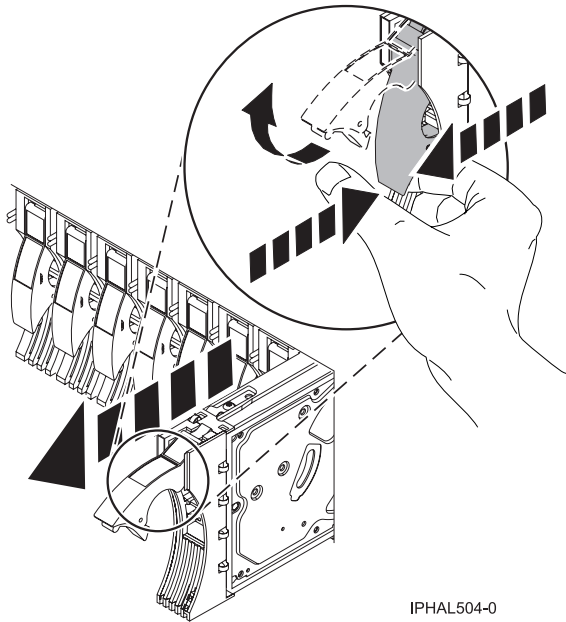

Figure 25. Removing a disk drive from a model or 11D/20
8. Squeeze and pull the handle of the disk drive out toward you before you remove the disk drive as shown in Figure 25 on page 34. If the handle is not all the way out, the disk drive does not slide out of the system or expansion unit.